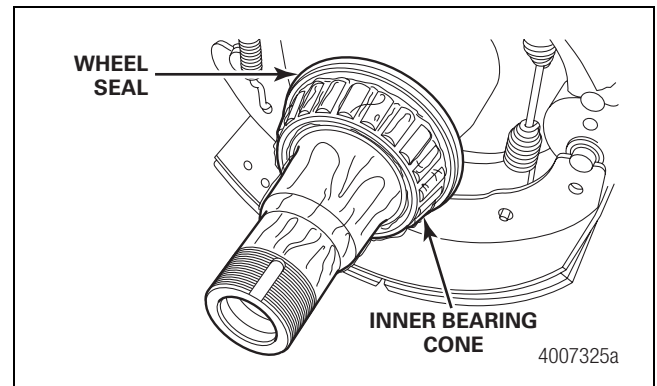

Figure 56
- Install a prelubricated inner bearing cone onto the spindle. Figure 56.